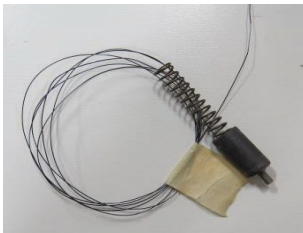

Figure 37: Coil the trigger, spring, and wire to be packaged for return to McNeilus Warranty.
- Coil the trigger, spring, and wire to be packaged. Tape the coiled wire at one end to keep it in a bundle (Figure 37).